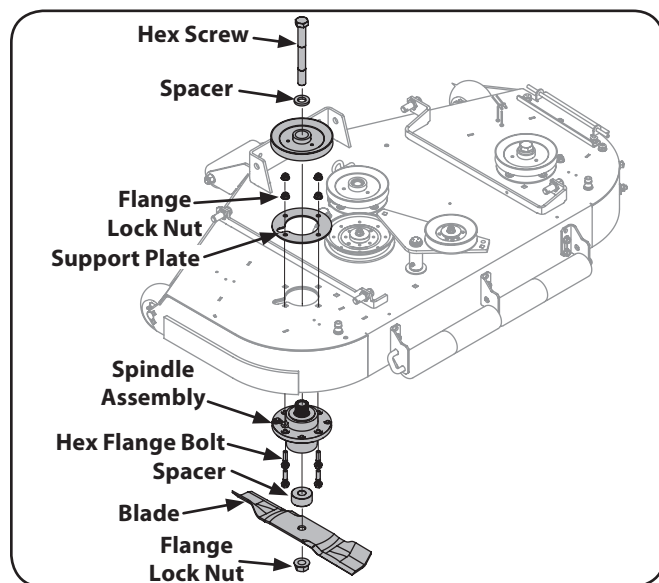

Figure 7-9
6. Using a $\frac{1}{16}$ wrench or socket ratchet remove the flange lock nuts, and the hex flange bolts. Remove the spindle assembly. See Fig. 7-9.